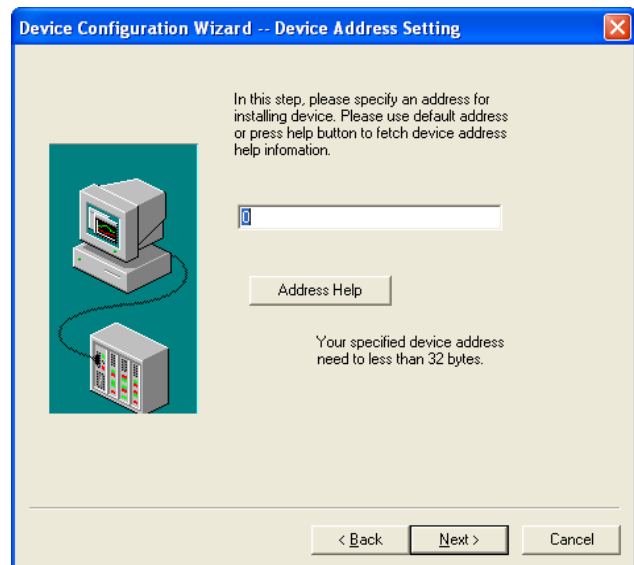

Fig. 15 Device Configuration Wizard-4
4. Fill in an address to install device. Input any number for the simulate PLC, 0 is available here. See Fig. 15);